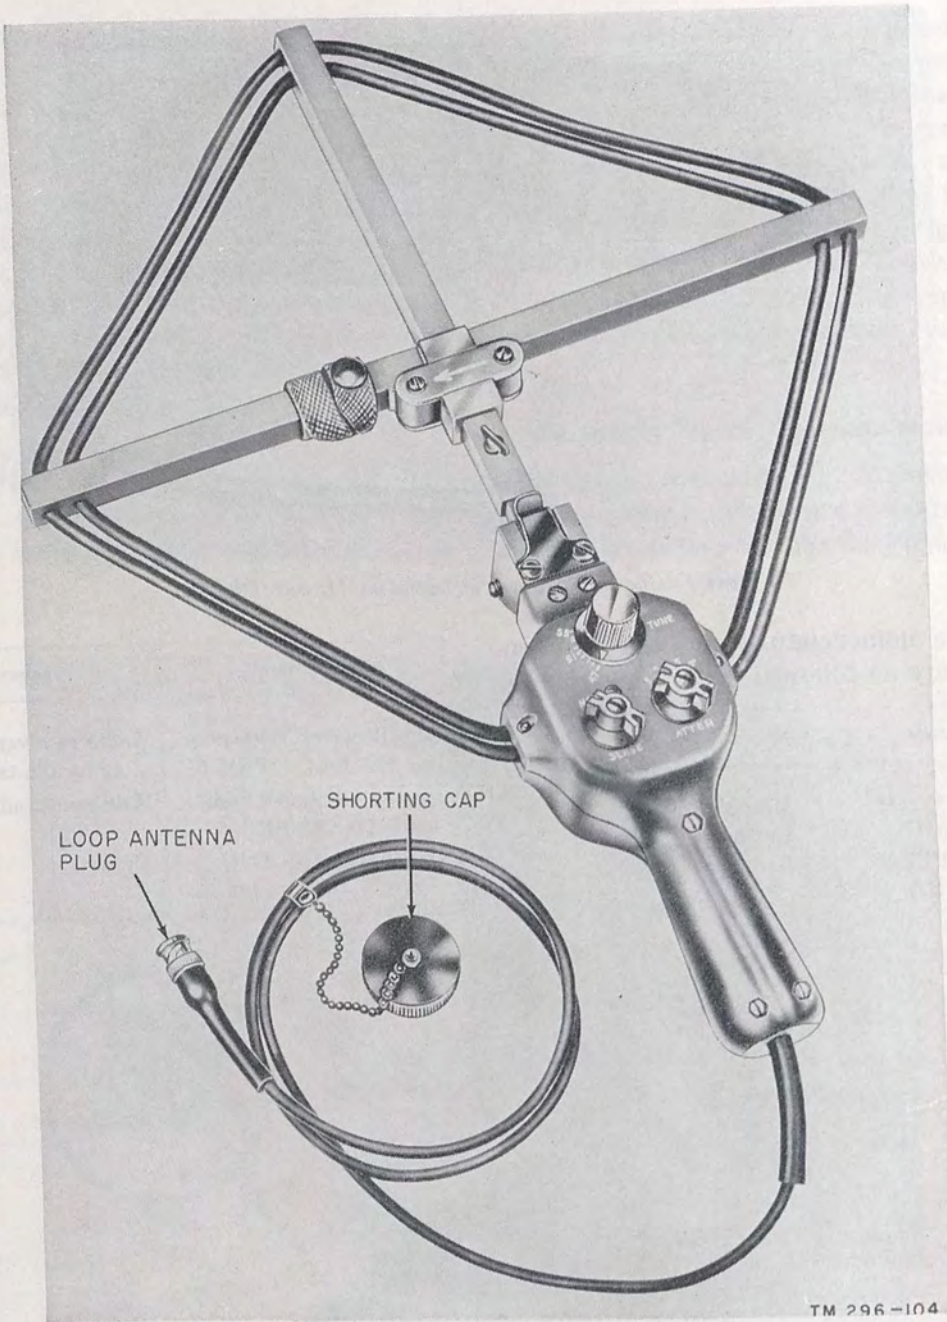

Figure 8. Antenna AT-249/GRD.
8. Auxiliary Equipment (fig. 8)
commonly referred to as a loop antenna. This antenna enables the operator to determine the direction of a radio transmitter that is operating at the same frequency as his radio set. The instructions for the use of the antenna are packed with the antenna. When the antenna is used, the loop antenna plug (fig. 8) is connected to the loop antenna connector on the handie-talkie, and the shorting cap (fig. 8) is screwed into the whip antenna connector (fig. 15).
Loop antenna connector (fig. 15)	When the loop antenna is used (par. 8), the loop antenna plug (fig. 8) is connected to the loop antenna connector on the handie-talkie.